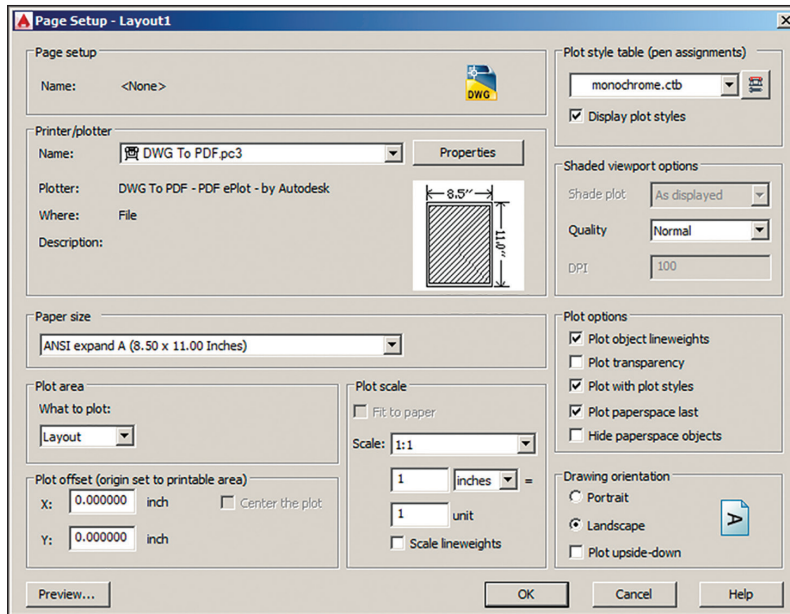

FIGURE 13.12 Configuring a page setup
- ▶ If you are using Imperial units, select ANSI Expand A (8.50 × 11.00 Inches) as the paper size (see Figure 13.12). Leave the plot scale at 1 inch = 1 unit. Click OK and then click Close.